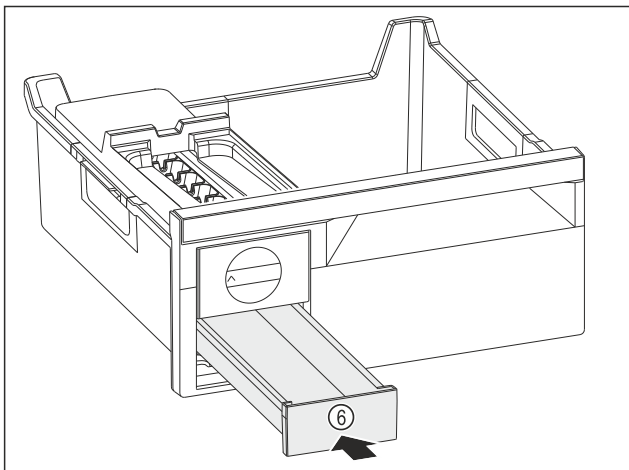

Fig. 82
- Insert the ice cube drawer Fig. 82 (6).